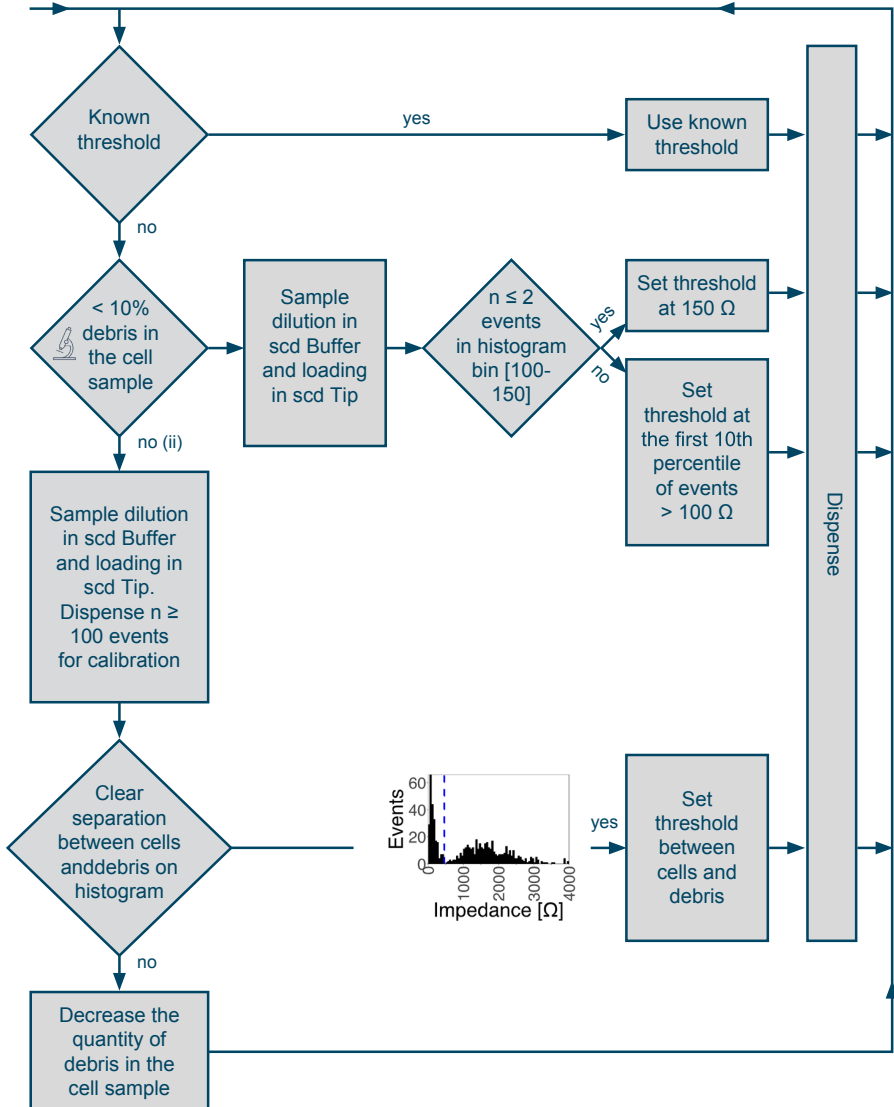

Figure 10. Guidelines to define the threshold between noise/debris and cells.
- The threshold is specific to a cell line and needs to be determined experimentally (cf. Figure 10 and 11). For most mammalian cells bigger than 10 μm , the recommended threshold is 200 ohms.